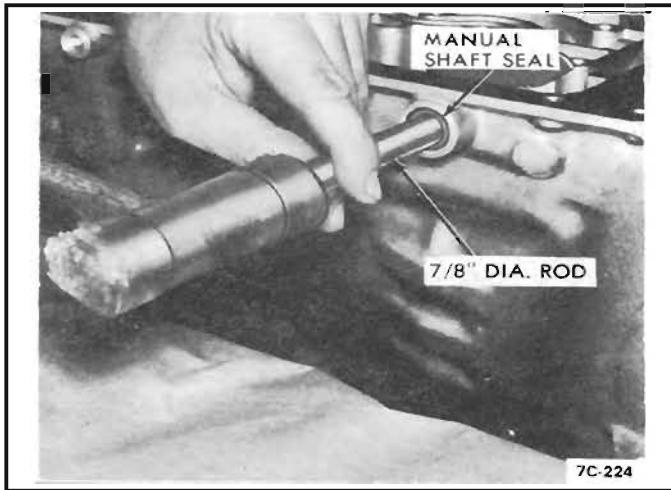

Figure 105 Seal Installation
1. If a new manual shaft to case lip seal is necessary use a 7/8" diameter rod and seat flush with case. See Figure 105.